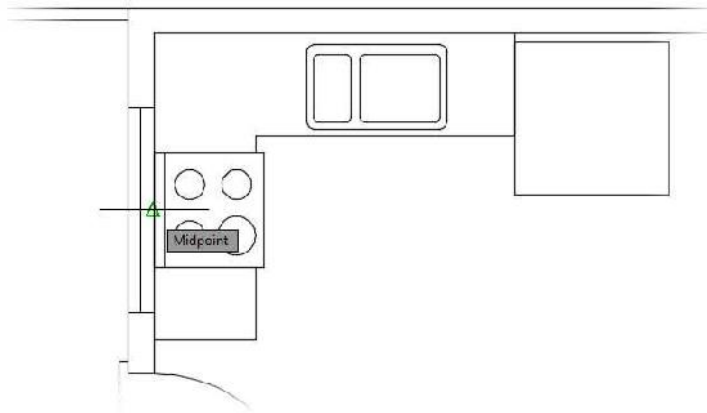

FIGURE 7.32: Placing the A-GLAZ block in line with the kitchen stove
14. Make sure the cursor is over the stove's midpoint (the lower of the two, as shown at the left of Figure 7.32), and then click.
The window over the sink is centered on the sink, but the sink line doesn't overlap the wall as the stove line did. You'll use the same snap tracking procedure that you used in Chapter 5, "Developing Drawing Strategies: Part 2," to set the window block's insertion point without the need to draw extraneous geometry. Refer to Figure 7.32, shown earlier, as you follow the procedure here: